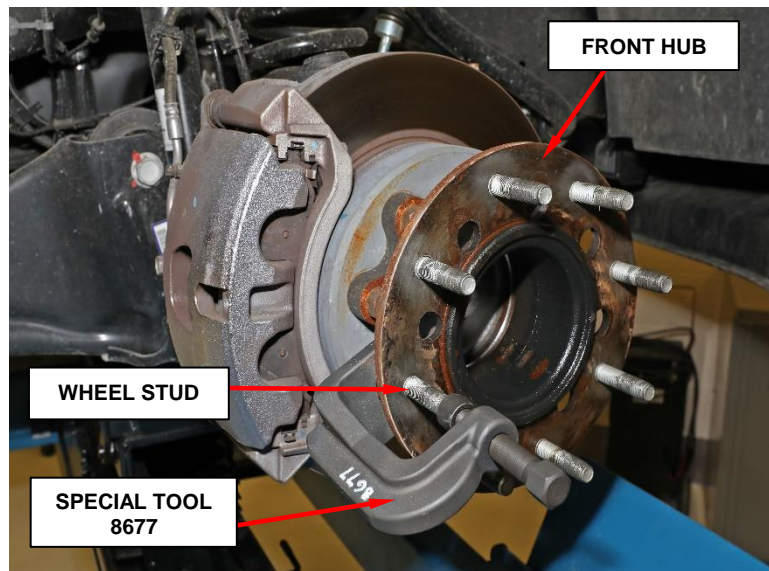

Figure 5 – Wheel Stud Removal
3. Attach special tool **8677** onto the front hub and press the wheel stud out of the wheel hub (Figure 5).